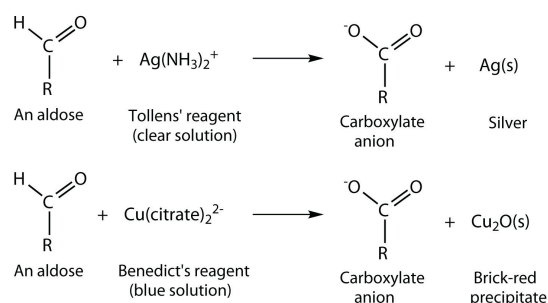

Figure 28.1o. Oxidation reactions of monosaccharides using either Tollens' reagent or Benedict's reagent (credit: *Intro Chem: GOB (v. 1.0)*, CC BY-NC-SA 3.0).
An important reaction of monosaccharides is the oxidation of the aldehyde group, one of the most easily oxidized organic functional groups. Aldehyde oxidation can be accomplished with any mild oxidizing agent, such as Tollens' reagent or Benedict's reagent. With the latter, complexed copper(II) ions are reduced to copper(I) ions that form a brick-red precipitate [copper(I) oxide; Figure 28.1o.].